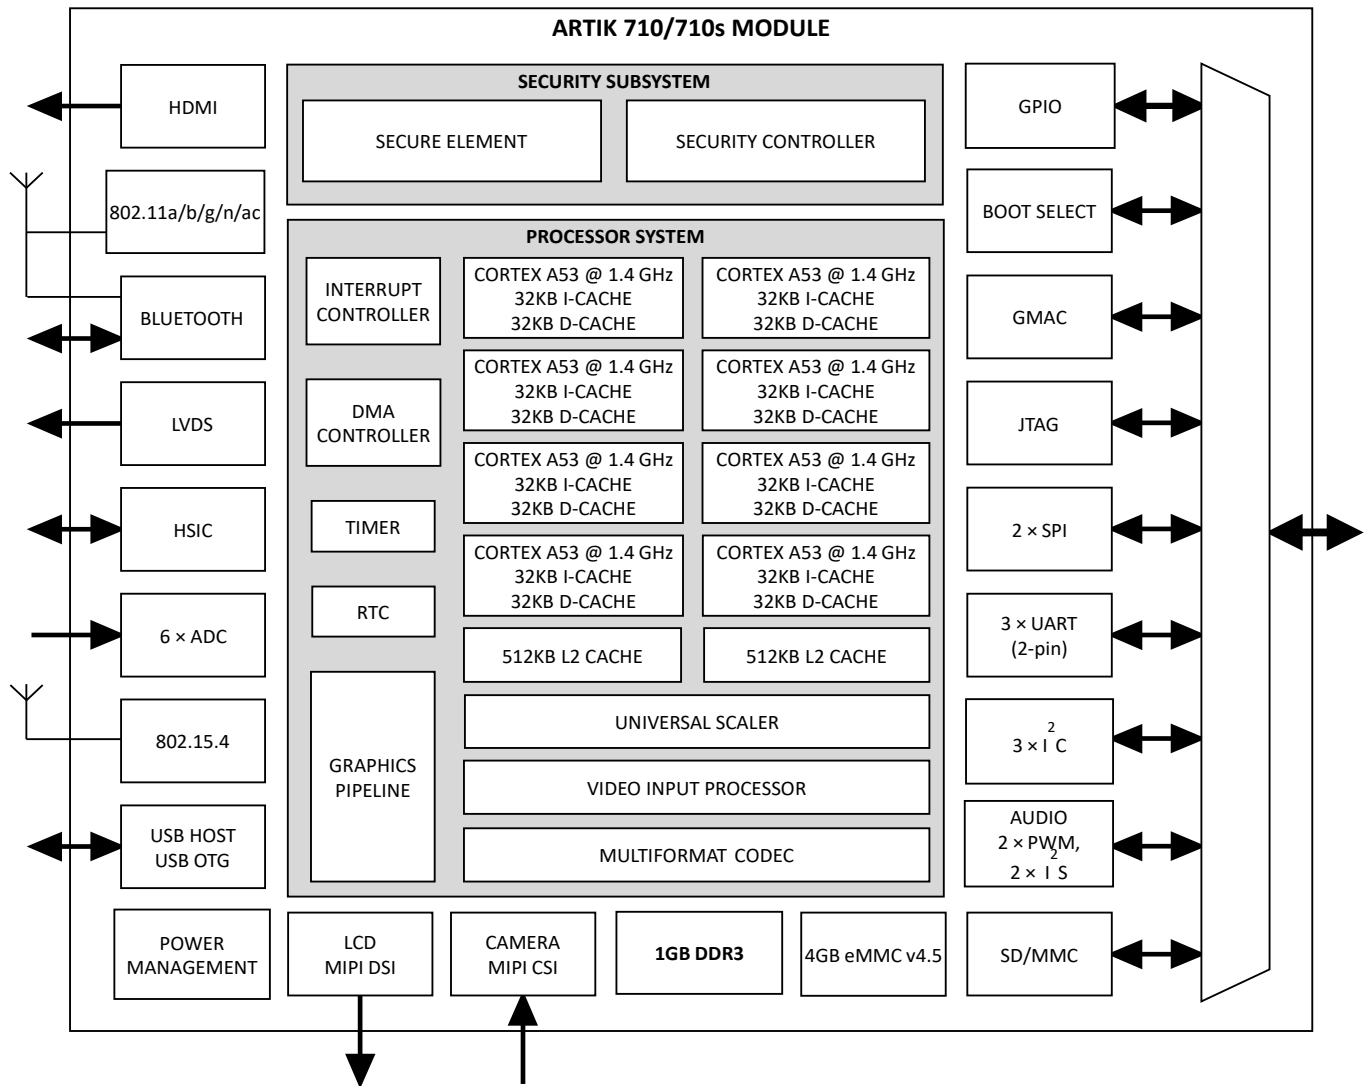

Figure 2. ARTIK 710/710s Module Functional Block Diagram
*Figure 2* shows the functional block diagram of the ARTIK 710/710s Module. It consists of an octa-core ARM® Cortex®-A53 application processor with 1GB of DDR3 and 4GB eMMC Flash, PMIC power management, Security Subsystem, 802.11 for Wi-Fi®, Bluetooth®, 802.15.4 for Zigbee, and RF connectors.
The following subsections describe the functions of the various ARTIK 710/710s Module blocks depicted in Figure 2.
The ARTIK 710/710s Module provides a GPIO system with up to 110 GPIOs multiplexed with other I/O interface lines, as shown in Figure 2 to support a wide variety of use-cases. The key features of the GPIO system are as follows: